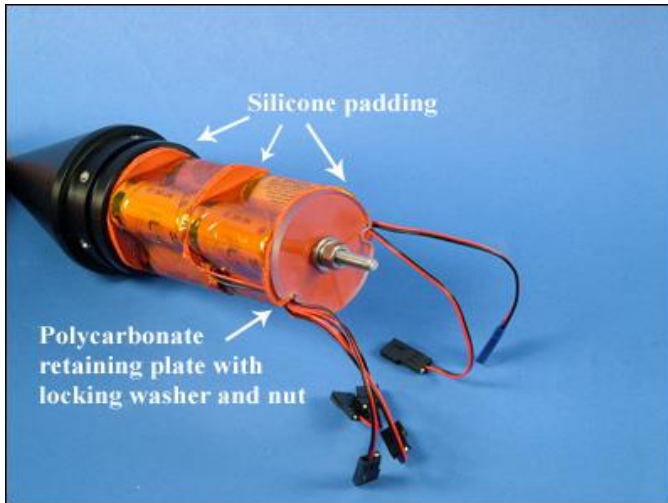

Fig. 7 Battery assemblies with leads properly dressed, silicone padding, polycarbonate retaining plate and locking nut and washer assembly in place.
3. Align battery assemblies such that the connector leads are dressed and secured together. Install silicone padding and polycarbonate plate. Install the flat washer, lock washer, locking nut and tighten securely. **(Fig. 7)**